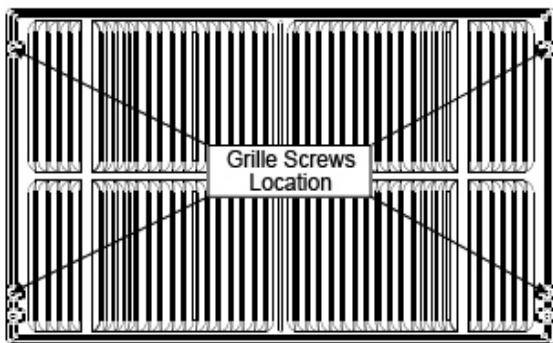

Fig. 2
4. If the unit has not been pre-drilled (some models), carefully drill 1/8" holes through the grille and into the side flange of the unit. These holes should be approximately 1 to 2 inches from the top and bottom as shown in Fig. 2 and 3.